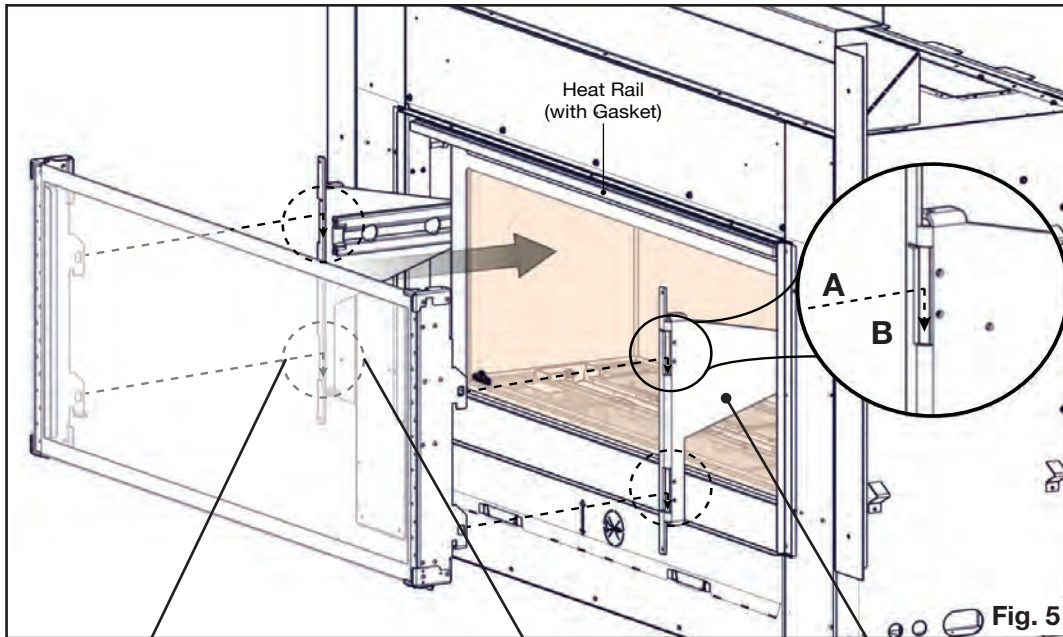

Fig. 5
5. Fully extend the two GGA-1 slider brackets of the appliance outward (**Fig. 5**).
6. Carefully hook GGA-1 onto GGA-1 slider brackets by aligning the horizontal tabs on the GGA-1 with the horizontal slots in the bottom of the GGA-1 slider brackets and moving the GGA-1 back into the GGA-1 slider brackets (**A**). Ensure both top and bottom tabs of the GGA-1 engage with hooks of the GGA-1 slider brackets (**B**) (**Fig 5**).